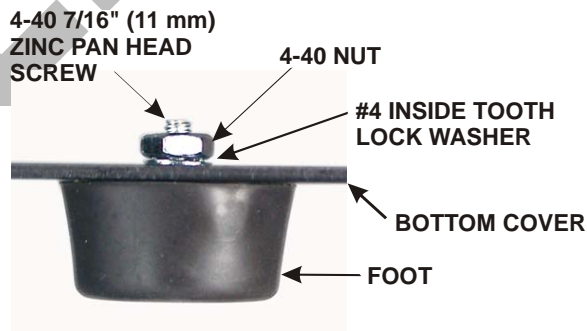

Figure 56. Installing Rear Feet.
- Two of the screw holes inside bottom cover section B have *not* had the paint removed from them. These are the mounting holes for the two rear feet. Attach each foot as shown in Figure 56.